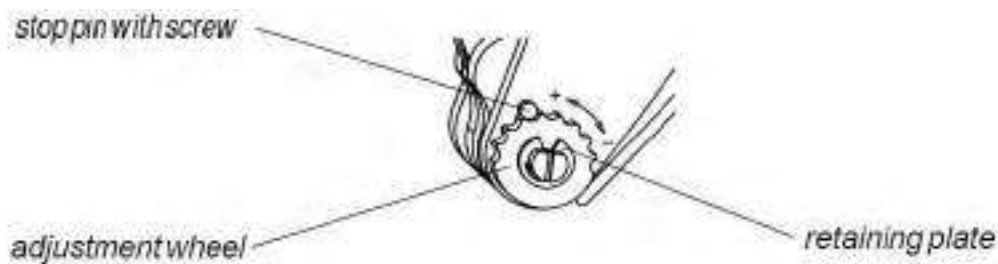

Figure 92
- (5) Slowly close the tool handles, allowing the dies to mate and/or align. Continue closing the tool handles until the ratchet makes the fifth "click", then tighten both die retention screws until snug.
- (6) Install the locator assembly on the stationary jaw and tighten the hex nut.
- (7) Install the contact locator on the movable jaw and tighten hex nut.
- (8) Check the crimp heights. If necessary, adjust as follows:
- b. If the crimp height is greater than recommended, open the plier and remove the screwed stop pin (Figure 92) with a screwdriver. Rotate the adjustment wheel COUNTERCLOCKWISE (+). If a looser crimp is required, rotate the adjustment wheel CLOCKWISE (-).
- c. Replace the screwed stop pin (Figure 92).